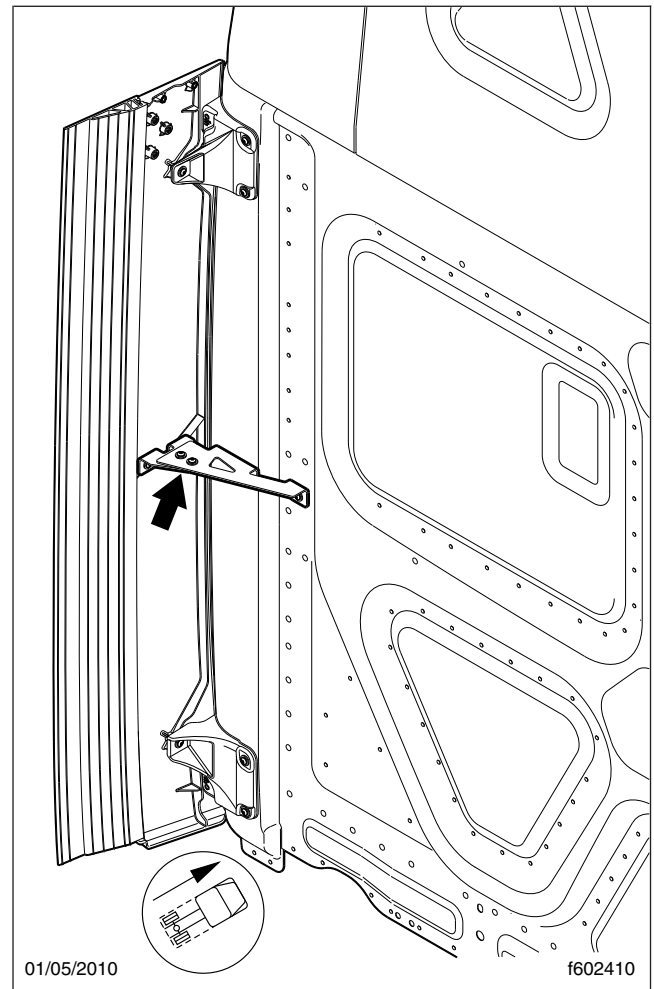

Fig. 24.7, Side Extender Middle Bracket
- If middle brackets are installed on the side extenders, as shown in Fig. 24.7, remove the rubber flex extenders.